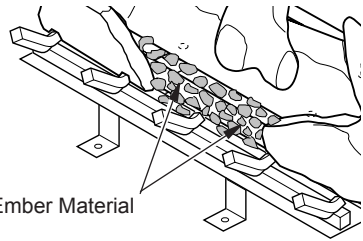

Figure 50 - Placing Ember Material on Burner
8. Pull ember material apart into pieces no larger than a dime. Place these pieces loosely and sparingly directly onto the exposed section of the front burner and along the space between the burner and grate prongs (see Figure 50). This will create the glowing ember appearance as the flame touches the ember material. Do not block air slots by using too much ember material in one area. It is not necessary to use all of the ember material provided.